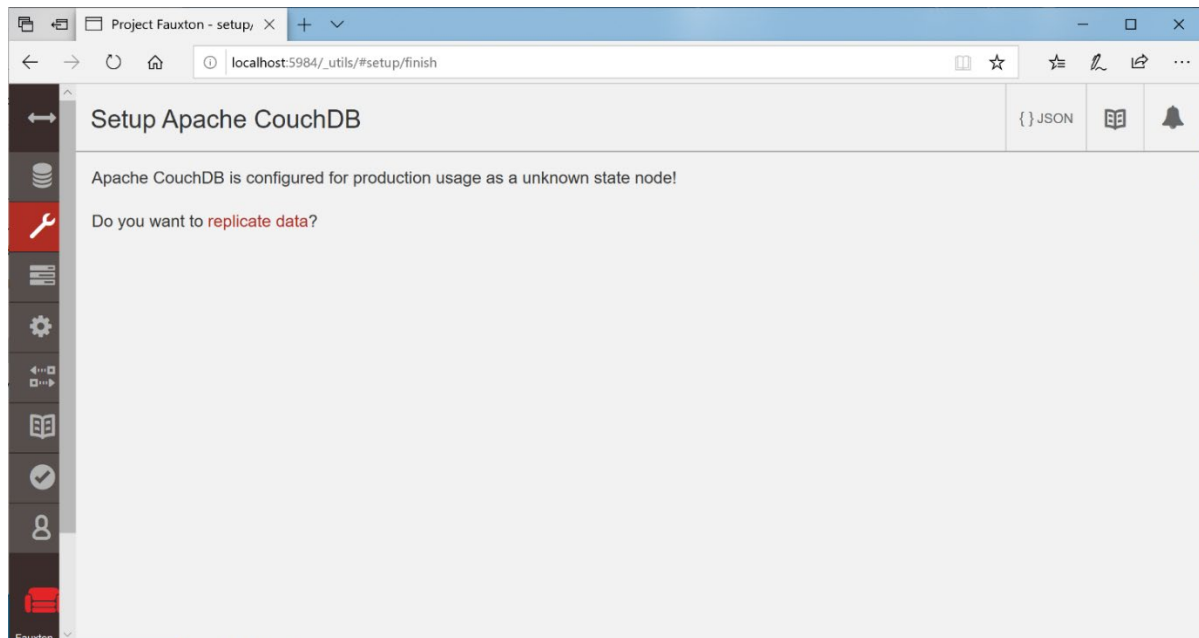

Figure 4-6 Replicate Data (No need to replicate)
- g. You are now ready in the database to receive data. Congratulations! There is no need to replicate data (see Figure 4-6).